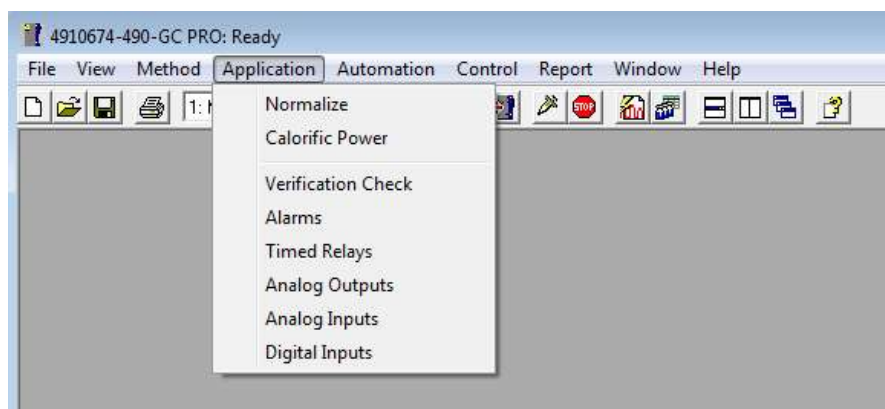
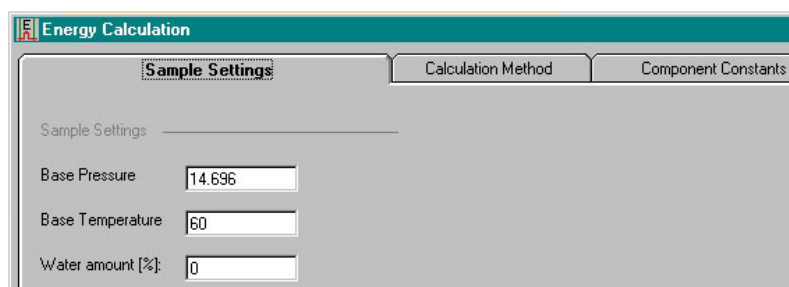

Figure 62: Open Calorific Power window
Figure 63: Calorific Power - Sample Settings tab
- Select: Application\Calorific Power\Sample settings tab, see Figure 62 and Figure 63.